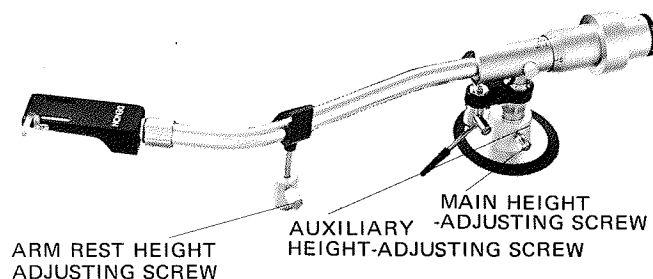

Fig. 2
4. The tone arm is able to horizontally turn within an angle of about 90 degrees. Adjust the tone arm direction so that it may cover the angle between the arm rest and the center spindle of the turntable. When the adjustment is over, fix the tone arm temporarily at a proper height by means of the main height-adjusting screw. (See figure 2)